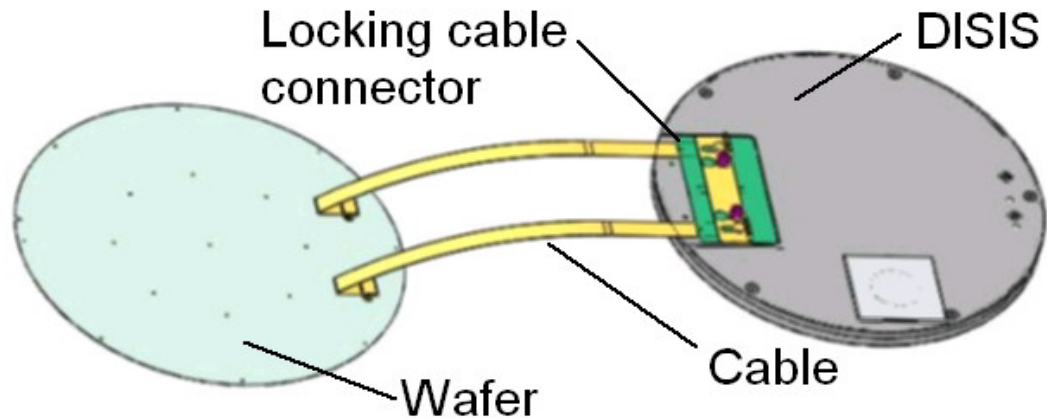

Figure 2. Wafer DISIS Connection
2. Place the DISIS unit and the wafer so that the twin cable and connector face each other as shown in Figure 2.